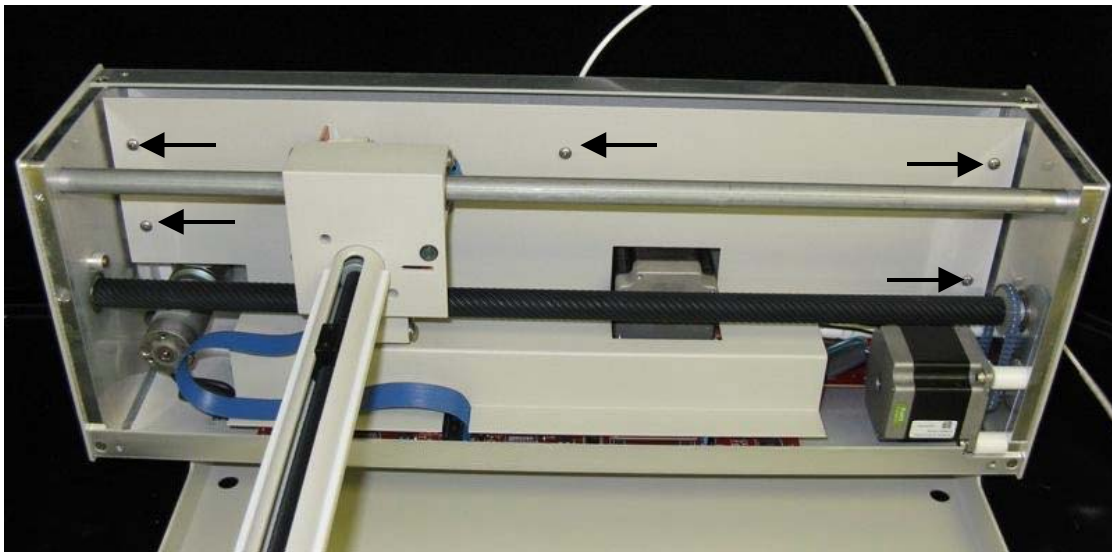

Figure 1-10. View of inner shield inside the ASX-520 (old shield).
8. The five screws that hold the inner shield will have to be removed. Move the Y-axis assembly all the way to the left. See Figure 1-10. If you have a newer two piece shield and splashguard proceed to step 10.